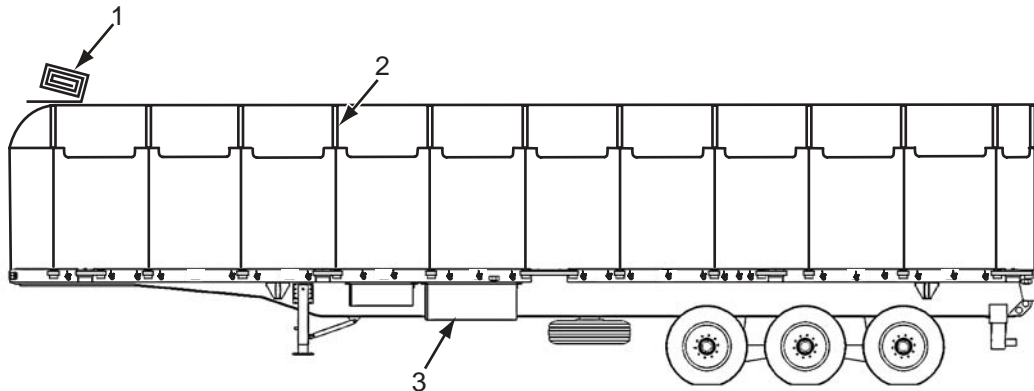

Figure 14. Tarpaulin Installation
1. Remove tarpaulin (1) from stowage box (3).
2. Lay tarpaulin on bulkhead according to Figure 14.
3. Unroll tarpaulin (1) over top of bows (2) toward rear of trailer.
4. Unfold tarpaulin (1) toward sides of trailer.
6. Secure tarpaulin (1) from front to rear of trailer with attached ropes and rubber straps.